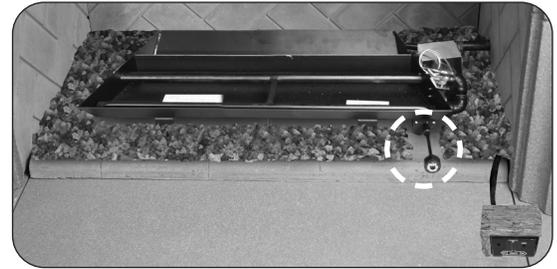

Fig. 17-1 Place lava media (if purchased)
1. Spread the lava granules on the floor of the fireplace, around the front and sides of the burner system (see Fig. 17-1).